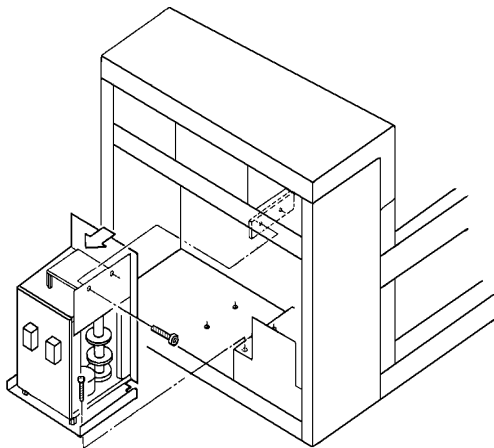

Figure 5-4. Pump Assembly Removal
| Figure 5-4. | Pump Assembly Removal | 5-5 |
19. To replace the Pump Assembly, follow steps 1 through 18 in reverse order. Refer to Figure 5-4.